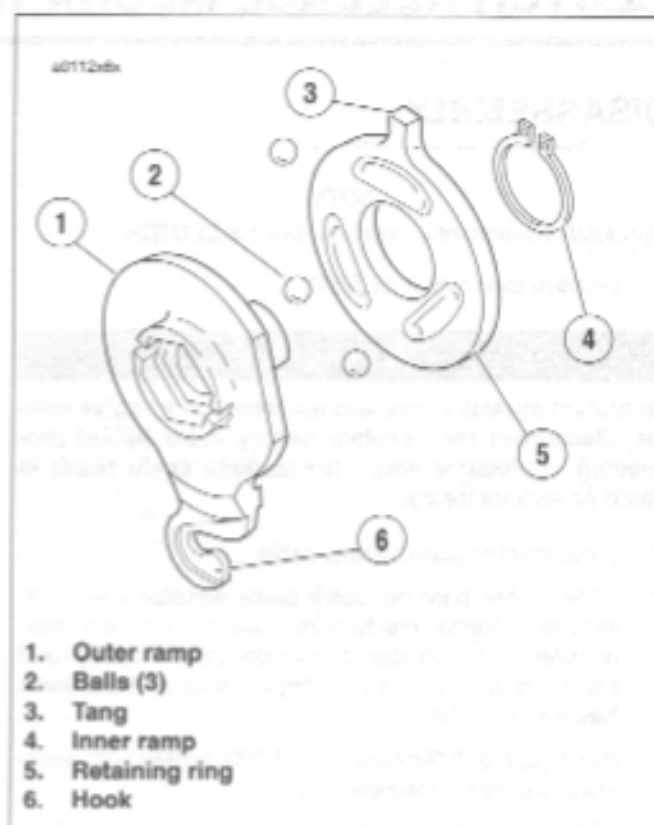

Figure 6-10. Inner and Outer Ramp
1. See Figure 6-10. Assemble inner and outer ramps.